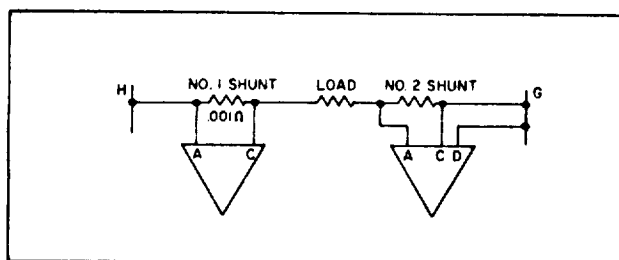

Figure 5-7. Shunt Circuit
- G. CURRENT MEASUREMENTS WITH SHUNTS.** A shunt is a calibrated resistor inserted in the line for the measurement of current. The voltage drop across the shunt is thereby proportional to the current flowing (Ohms Law). The necessity in constructing a shunt is that the mechanical construction provides self-cooling, and resistance (R) should remain constant. As shown in Figure 5-7, a one milliohm shunt produces a one millivolt output per ampere flowing through the load. This is an example of a differential voltage measurement. If the hot line is 10 volts, and 10 amperes are flowing through the load, pin A will be at a 10.00 volt level. Pin C of the amplifier will see 9.99 volts, virtually matching the common mode specification of the amplifier.